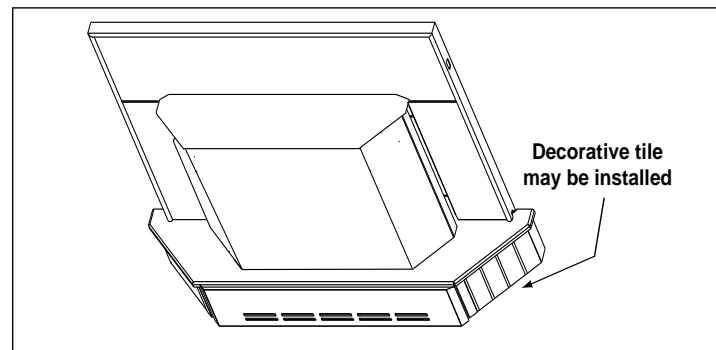

Figure 21.3
3. Measure front and side trims to required height to cover scissors and mark pieces for cutting. Cut excess material from top of trim's edge, not bottom. This edge will be sharp; wear gloves to prevent injury to your hands. **Figure 21.3.**
NOTE: 3/8 inch (9.5mm) thick tile or like material can be cut to size and fit under lip of top trim edge for a decorative touch. **Figure 21.3.**